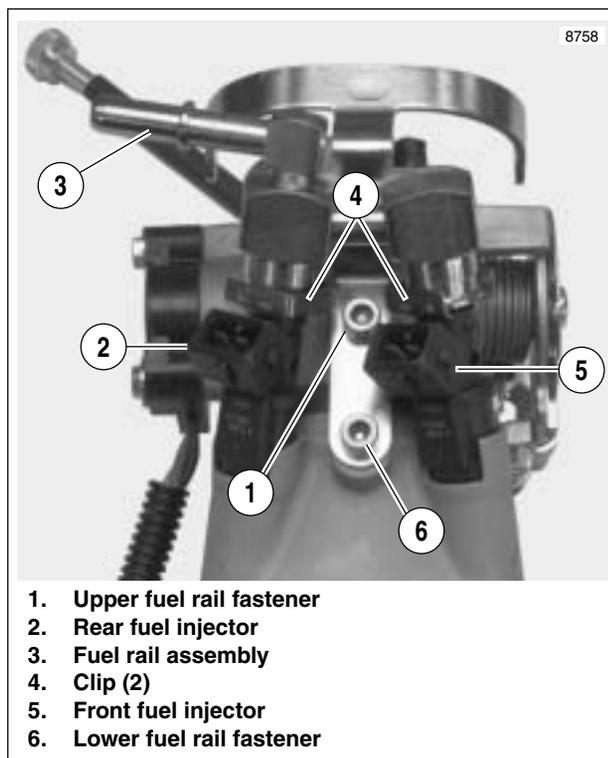

Figure 4-72. Fuel Injectors
1. See Figure 4-72. Remove upper fuel rail fastener (1).
5. See Figure 4-72. Apply a drop of LOCTITE THREAD-LOCKER 222 (purple) to threads of fuel rail fastener (1).
- a. See Figure 4-72. Remove both injector clips (4).
6. See Figure 4-72. Install fuel injectors.
- b. Press the fuel rail assembly (3) onto the top of the injectors.
7. Snap the injector clips (4) over the flange on the fuel rail outlet and into the top groove in the injector.